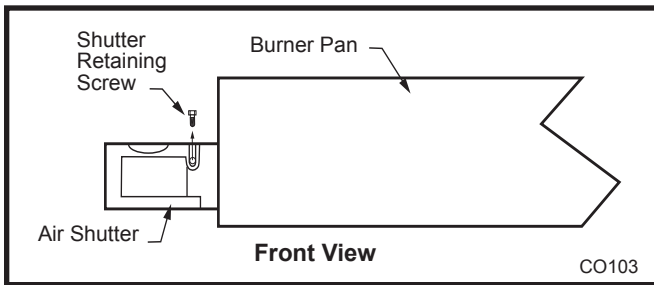

Fig. 85 Remove air shutter from burner pan.
4. Remove both air shutters from burner pan by removing air shutter retaining screw then air shutter. (Fig. 85)